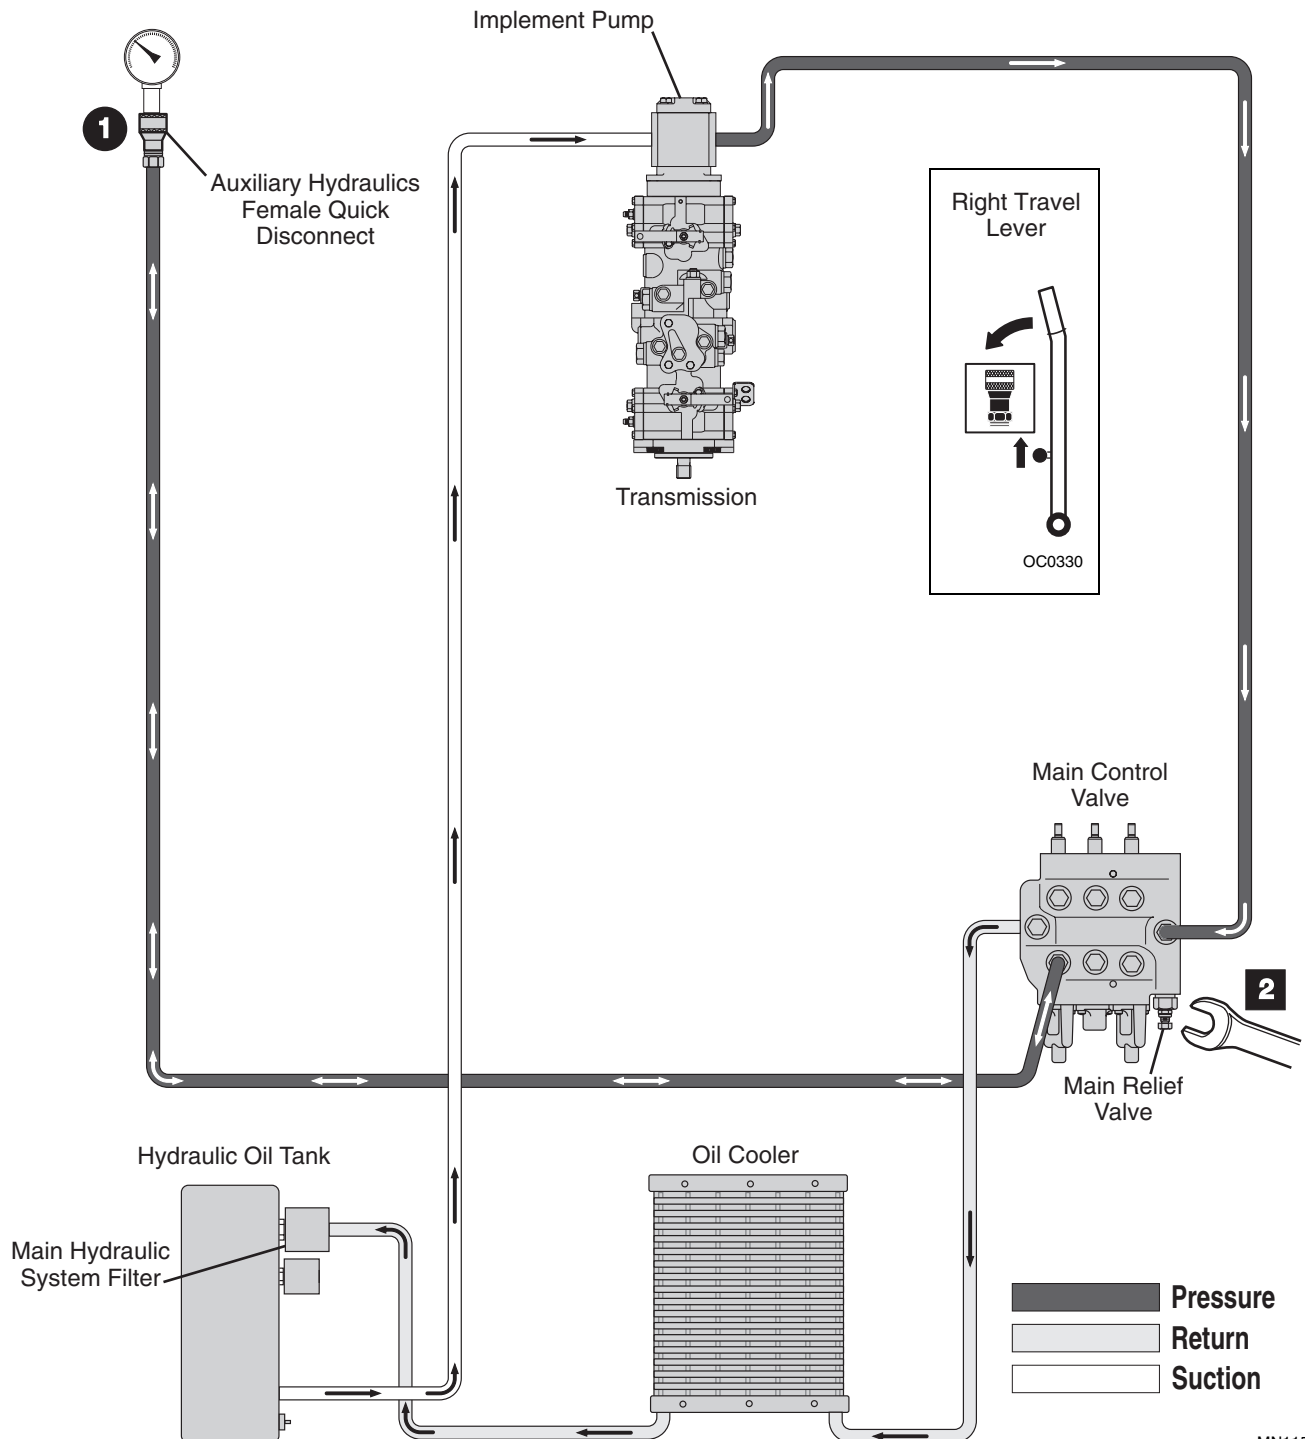

Figure 3-10 Model 2000D/DX & 2300D/DX Main Control Valve System Relief Test
1. Main Control Valve system relief test (Refer to Section 3.4.1, Fig. 3-10)